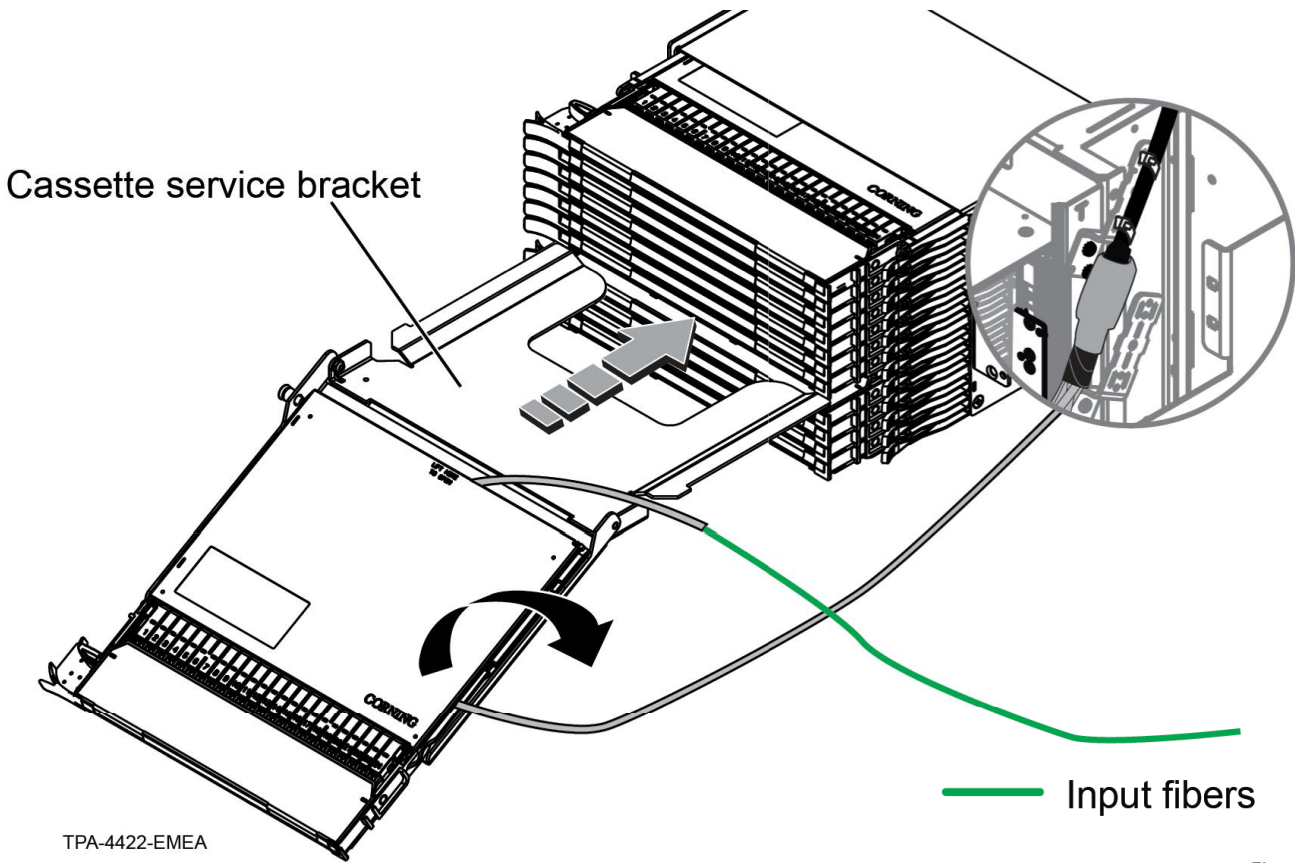

Figure 50
Step 6: If using the service bracket, insert it into the slot vacated by the cassette being work on (Figure 50). Open the cover of the cassette and remove it, if desired, by bowing the hinged edge of the cover to release the hinge pins.